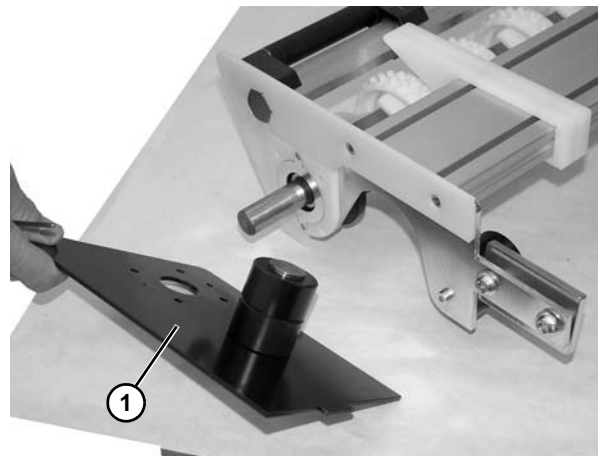

Figure 64
5. Remove cover assembly (Figure 64, item 1).